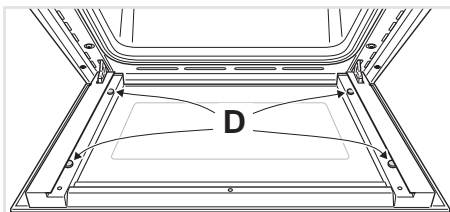

Figure 52a
IMPORTANT: It is advisable, while removing the glass, to keep pressed in position the four rubber pads "D" (fig. 52a), by a finger, to avoid breakage or slippage of the rubber pads themselves.
- Check that the four rubber pads are in place ("D" in fig. 52a).